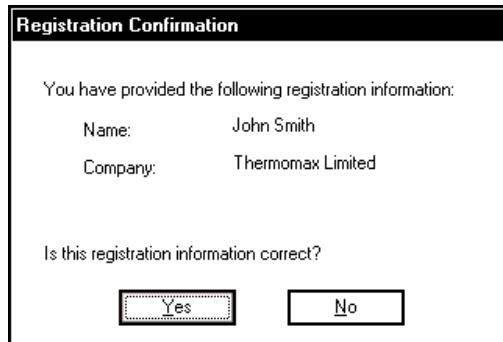

Figure 1.6, Registration Confirmation
10. Once has been pressed, the user will be asked to confirm that the information entered was correct. This is illustrated in **Figure 1.6**.